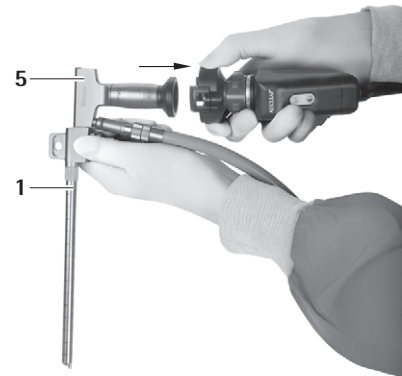
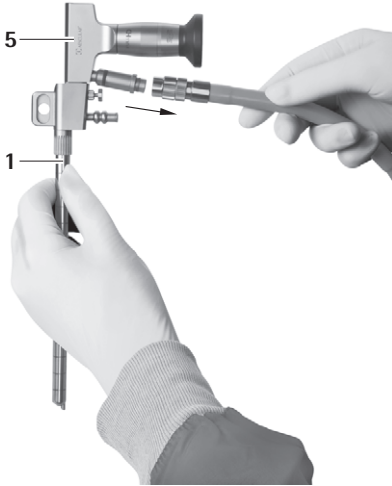

Fig. 6
Fig. 7
- ▶ Disconnect camera and light cable from the endoscope 5, see Fig. 6 and see Fig. 7.